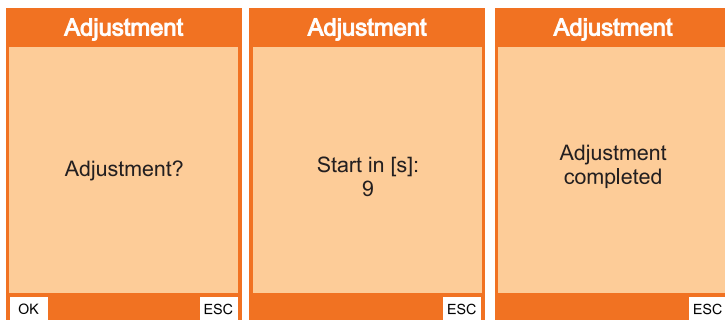

Fig. 16: Adjustment
3. Select **Adjustment**. The start view of the **Adjustment** process will appear (fig. 16, left image).